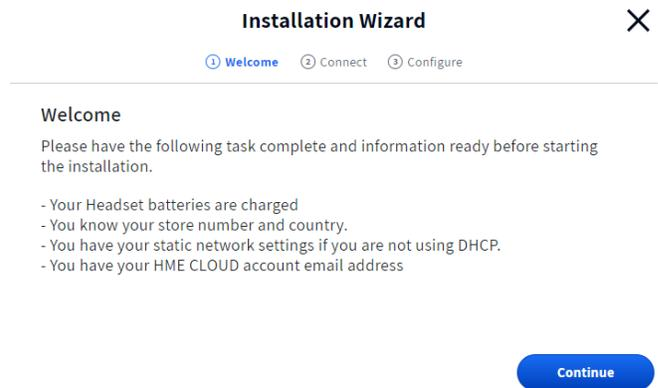

Fig. 2.6
- On the Base Station UI, follow the Installation Wizard to connect and configure the system (see Fig. 2.6).